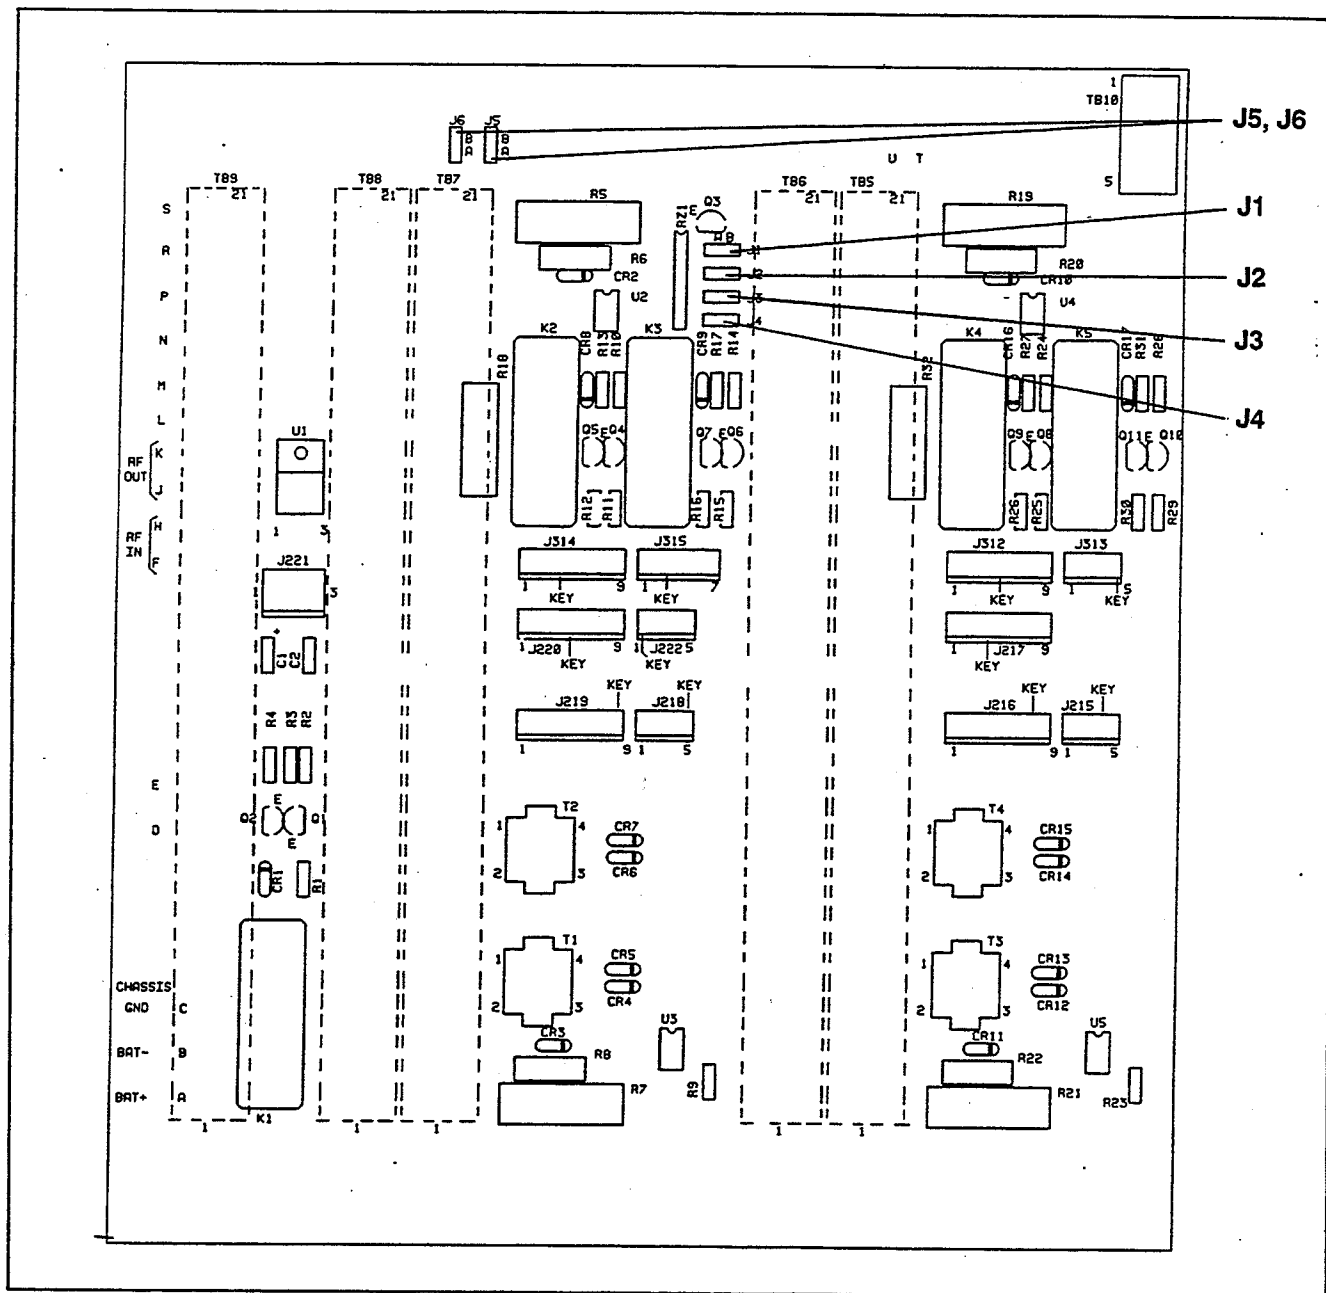

Figure 3-9. Controls and indicators, RFL 9505 chassis interface boards
*The controls in Figure 3-9 labeled FACT ADJ are set at the factory, and cannot be readjusted in the field. Any attempt to adjust these controls in the field may result in system malfunctions.*
There are two interface boards at the rear of each RFL 9505 chassis: the 95 I/O INT Interface Board, and the 95 PWR I/O INT Power Interface Board. There are six jumpers on the 95 PWR I/O INT (J1 to J6) and two on the 95 I/O INT (J5 and J6). Figure 3-9 on page 3-16 shows the location of these jumpers.